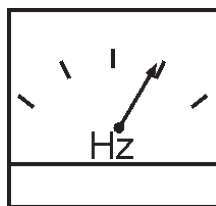

Figure 45. Frequency Meter (Hz)
8. The generator's frequency meter (Figure 45) displays the 60 cycle output frequency in **HERTZ**.